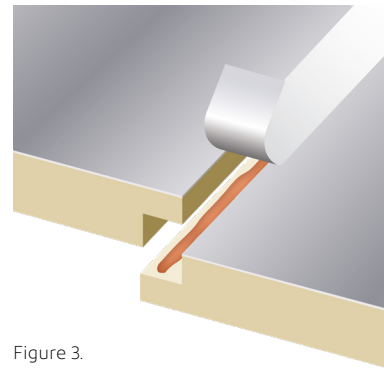

Figure 3.
1. Use a chemically-compatible construction grade sealant to join the factory produced shiplapped joint as well as the end joints over roof or wall framing (Figure 3).